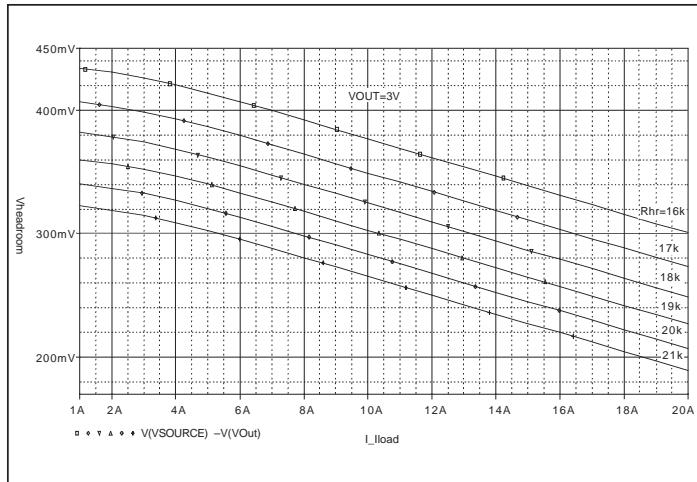

Figure 5—Headroom vs. load current at 3V output.
| V HR headroom voltage range (1)@ 1A load                              | 325          |     | 425         | mV             | See Figures 5, 6 & 7See Table 1 for headroom setting resistor values   |
The active loop senses the output current and reduces the headroom voltage in a linear fashion to approximate constant power dissipation of MicroRAM with increasing loads (see Figures 5, 6 & 7, p. 6). The headroom setting can be reduced to decrease power dissipation where the transient requirement is low and efficient ripple attenuation is the primary performance concern.